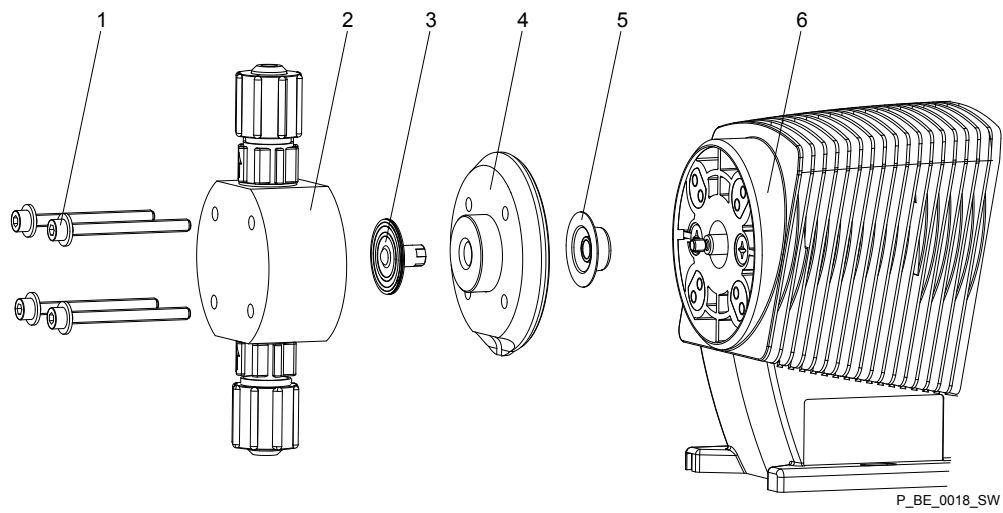

Fig. 12: Exploded view of liquid end
16. Unscrew the diaphragm (3) again.
17. Place the backplate (4) onto the pump housing (6).
- The leakage hole must point downwards when the pump is later installed - Fig. 12!
- Place the backplate (4) immediately into the correct position on the pump housing (6)! Do not twist the backplate on the pump housing so that the safety diaphragm (5) becomes warped!
18. Place the diaphragm (3) into the backplate (4).
- Do not overtighten the diaphragm (3) in the following step!
- The backplate (4) must remain in its position so that the safety diaphragm does not become warped!
19. Hold the backplate (4) firmly and screw the diaphragm (3) in a clockwise direction until it is sitting tightly (the twisting resistance of the retaining spring can be felt).
21. Place the dosing head (2) with the screws (1) onto the diaphragm (3) and the backplate (4) - the suction connector must be pointing downwards when the pump is later installed.
22. Gently tighten the screws (1) and then further tighten cross-wise. See below for tightening torque.